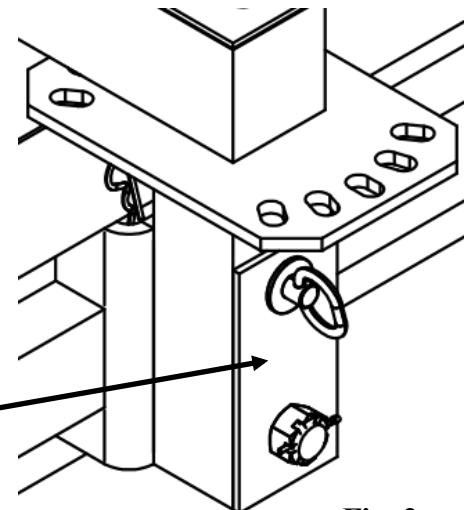

Fig. 2
- Step 2. Attach the Pivot Assembly to the Moldboard. **NOTE:** A reinforcement plate is welded to one side of the Pivot Assembly. This plate must face **AWAY** from the moldboard when installing, See Fig. 2. **Failure to do so may result in damage to the Pivot Assembly!**